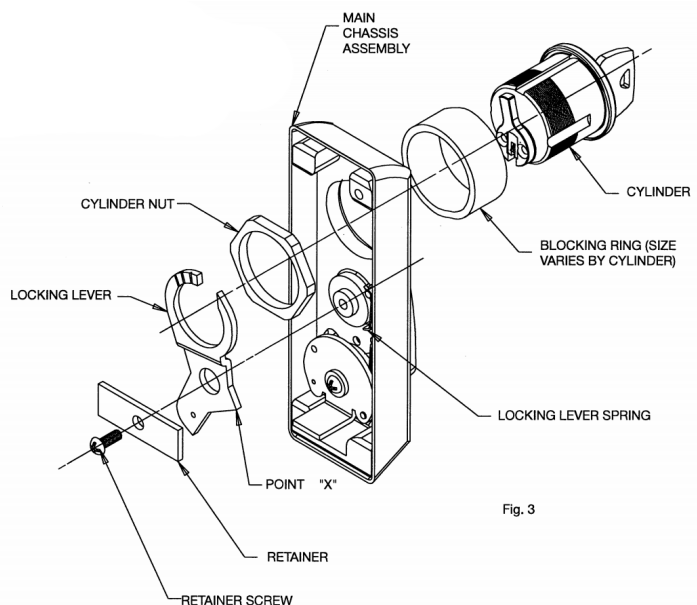

Fig. 3
1. Unscrew retainer screw. Remove retainer and locking lever (Fig. 3).